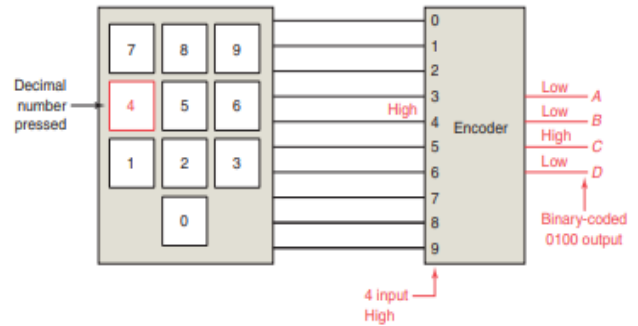

Figure 3-17 Diagram for Problem 2.
72. The encoder circuit shown in Figure 3-17 is used to convert the decimal digits on the keyboard to a binary code. State the output status (HIGH/LOW) of A-B-C-D when decimal number a. 2 is pressed. b. 5 is pressed. CHAPTER 3 PROBLEMS c. 7 is pressed. d. 8 is pressed.